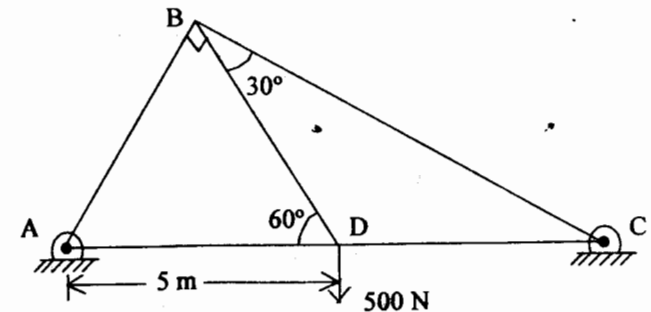

Fig. 7
4. Answer any **one** part of the following :— (10)
- (a) A truss is loaded as shown in Fig. 7. Find the reactions and forces in each members.